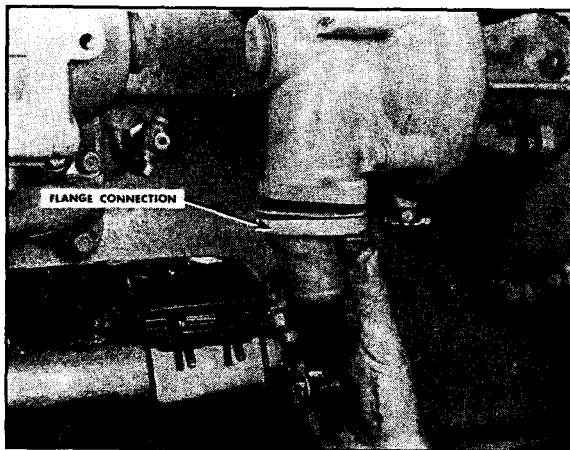

Fig. 12-79. Installing water pump extension flange
1. Tighten the water pump extension flange with gasket to the pump inlet connection. Fig. 12-79.